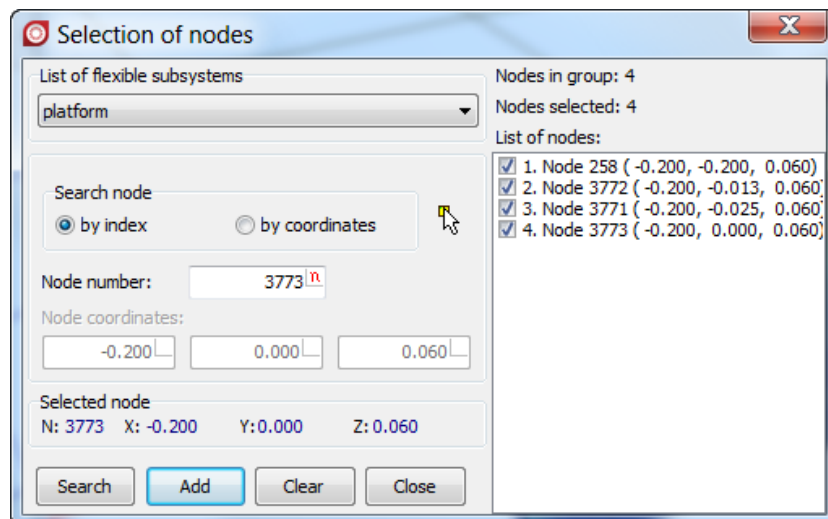

Figure 2.19. Select node to highlight
11. Select the **by index** option and set **N** to **258**, see Figure 2.19.